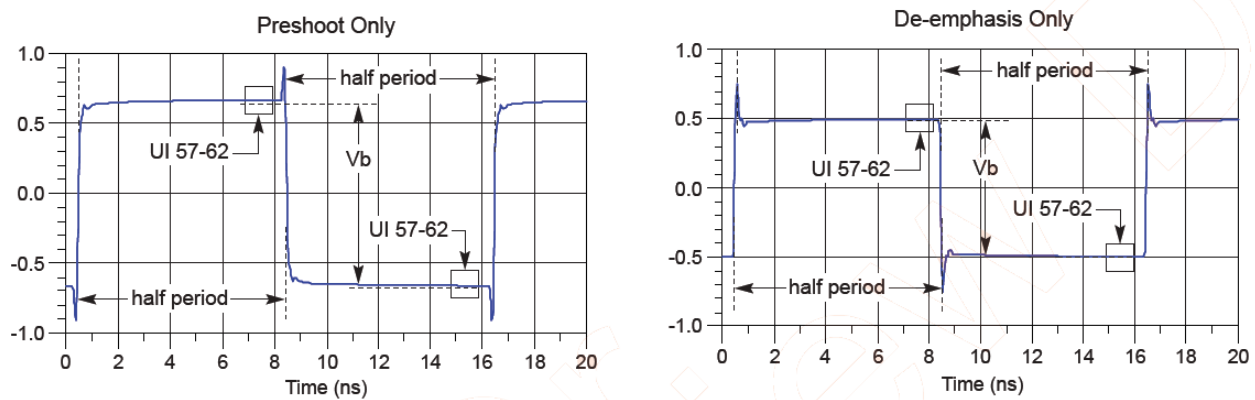

Figure 102 Waveform measurement points for preshoot and de-emphasis
8.0 GT/s, 16.0 GT/s and 32.0 GT/s PCIe signaling must support the full range of presets given in Table 8-1 (PCIe Base Specification Revision 5.0). Presets are defined in terms of ratios, relating the pre-cursor and post-cursor equalization voltages. The pre-cursor (V_c) is referred to as pre-shoot, while the post-cursor (V_b) is referred to as de-emphasis. This convention permits the specification to retain the existing 2.5 GT/s and 5.0 GT/s definitions for Tx equalization, where only de-emphasis is defined, and it allows preshoot and de-emphasis to be defined such that each is independent of the other. The tolerances in Table 8-1 (PCIe Base Specification Revision 5) also apply to 2.5 and 5.0 GT/s de-emphasis. The maximum swing, V_d , is also shown to illustrate that, when both c_{+1} and c_{-1} are nonzero, the swing of V_a does not reach the maximum as defined by V_d . The high frequency nature of PCIe signaling makes measurement of single UI pulse heights impractical. Consequently all amplitude measurements are made with low frequency waveforms as shown in Figure 102